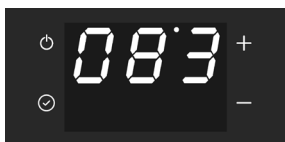

fig. 7 - Third screen
- Third screen: 08 (vedi fig. 7)